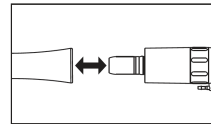

Fig. 1
1. Connect handpiece to air motor until it locks into place. (Fig.1)
1. Hold air motor and handpiece attachment separately and pull the handpiece attachment off in an axial direction.(Fig.1)
1. Apply 1-2 drops of high quality lubricant oil intended for use with dental handpiece / air motor (not included with device) into drive air tube (Fig. 1)